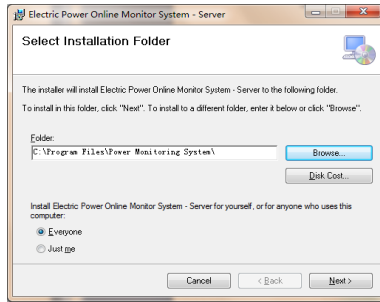

Fig. 3.3
3). Click "Next", and then click "Browse" to choose folder. Such as C:\Program Files\Power Monitoring System\ .Shows as Fig. 3.3